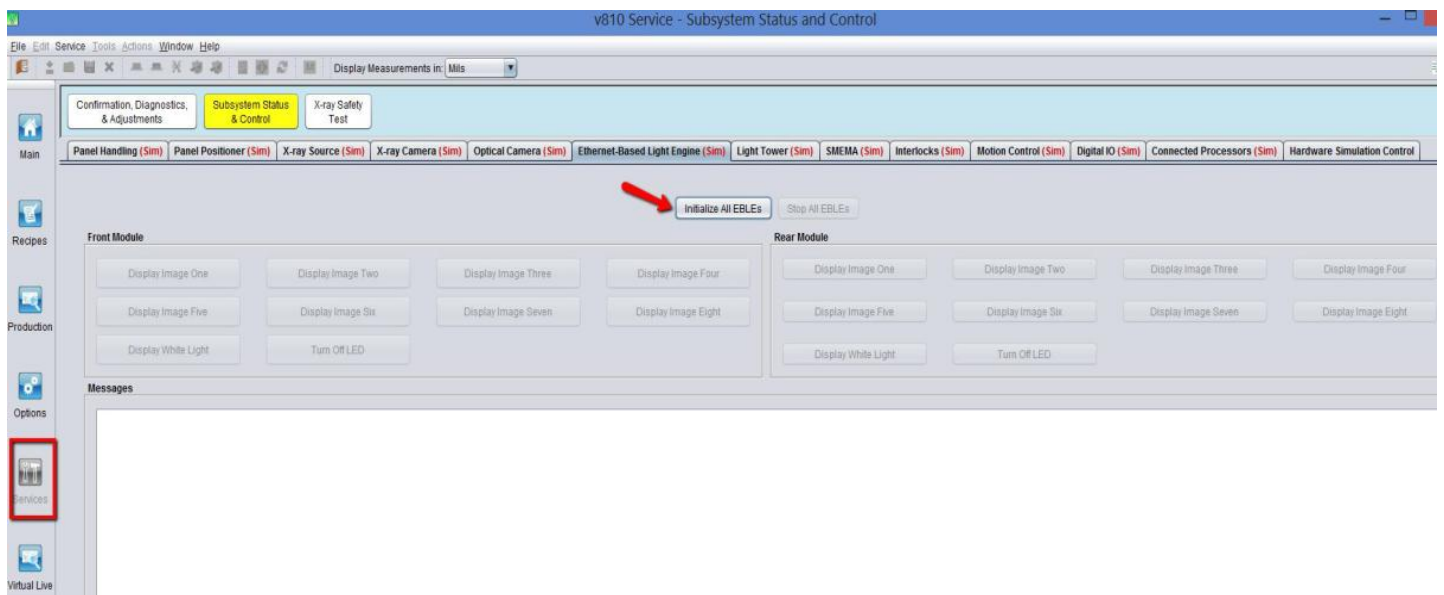

Figure 15 EBLE GUI
9. Click Initialize at Ethernet-Based Light Engine as below Figure 15.